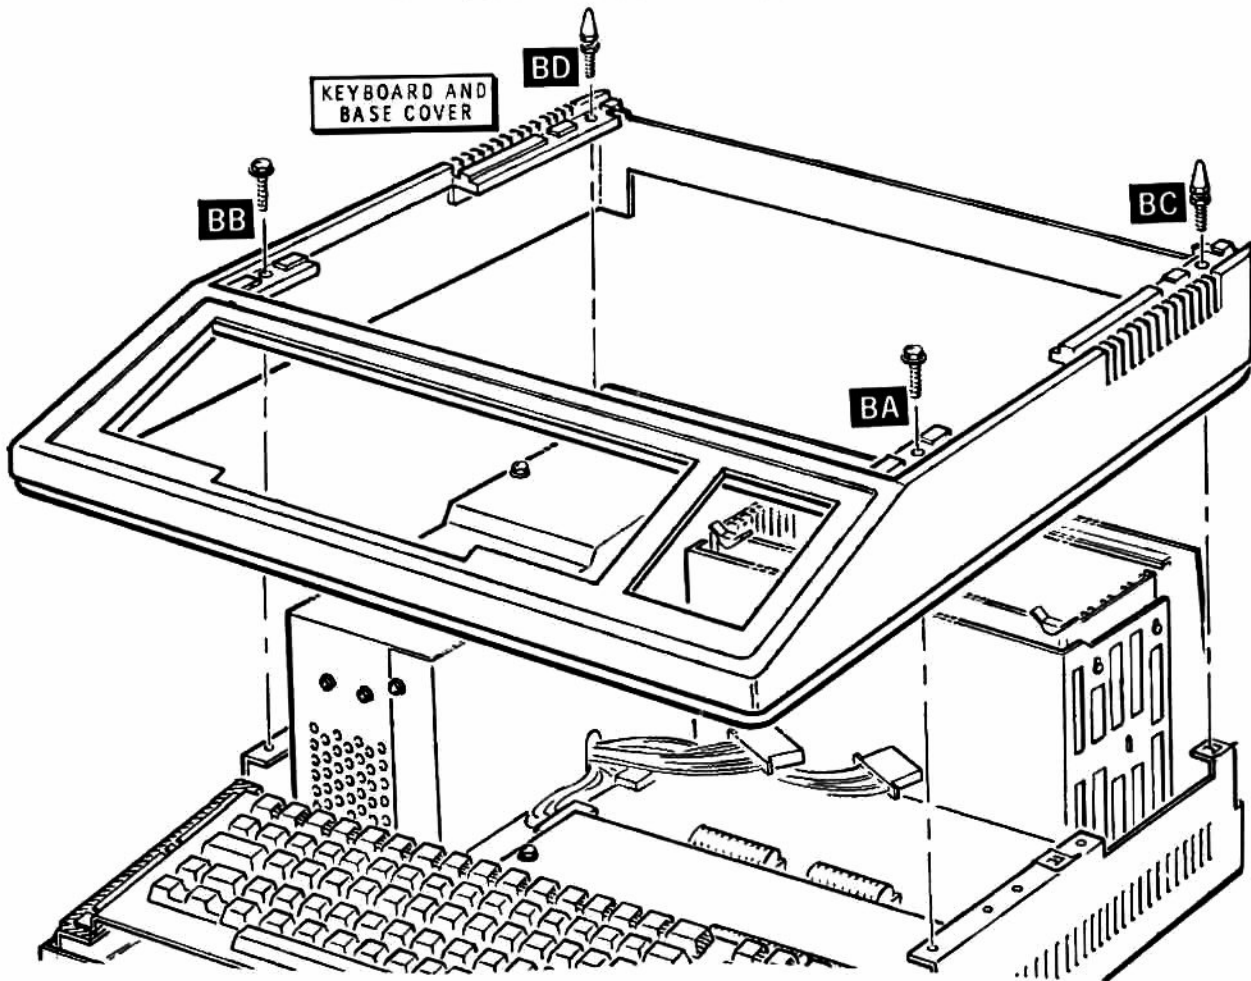

Figure 2.7. Keyboard and Base Cover Removal
- Refer to Figure 2.7. Remove and retain the two screws from the upper front keyboard and base cover corners at positions BA and BB.